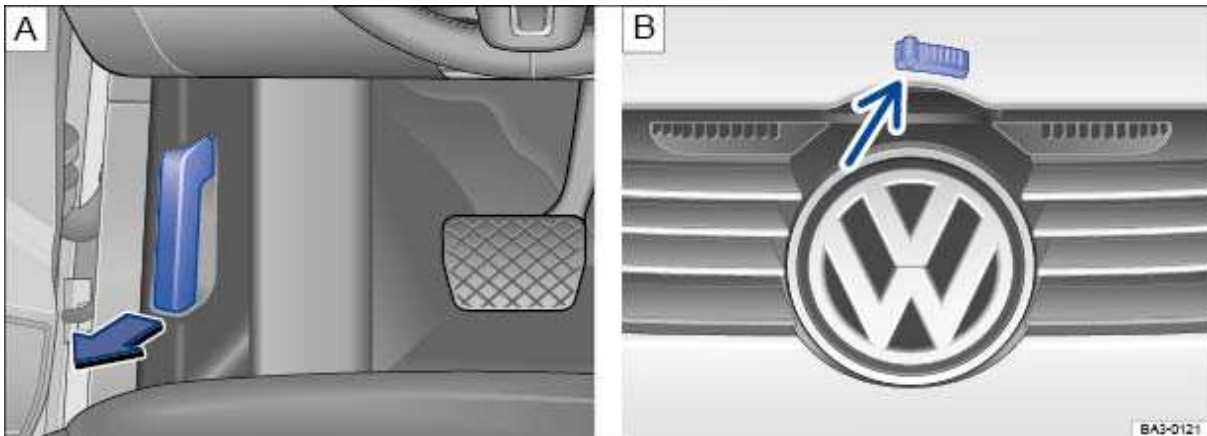

Fig. 166 A: In the footwell on the driver side: Inside engine hood release lever. B: Above the radiator grille: Outside engine hood release (under the hood).
- Open the driver door and pull the inside hood release lever in the direction of the arrow ⇒ fig. 166